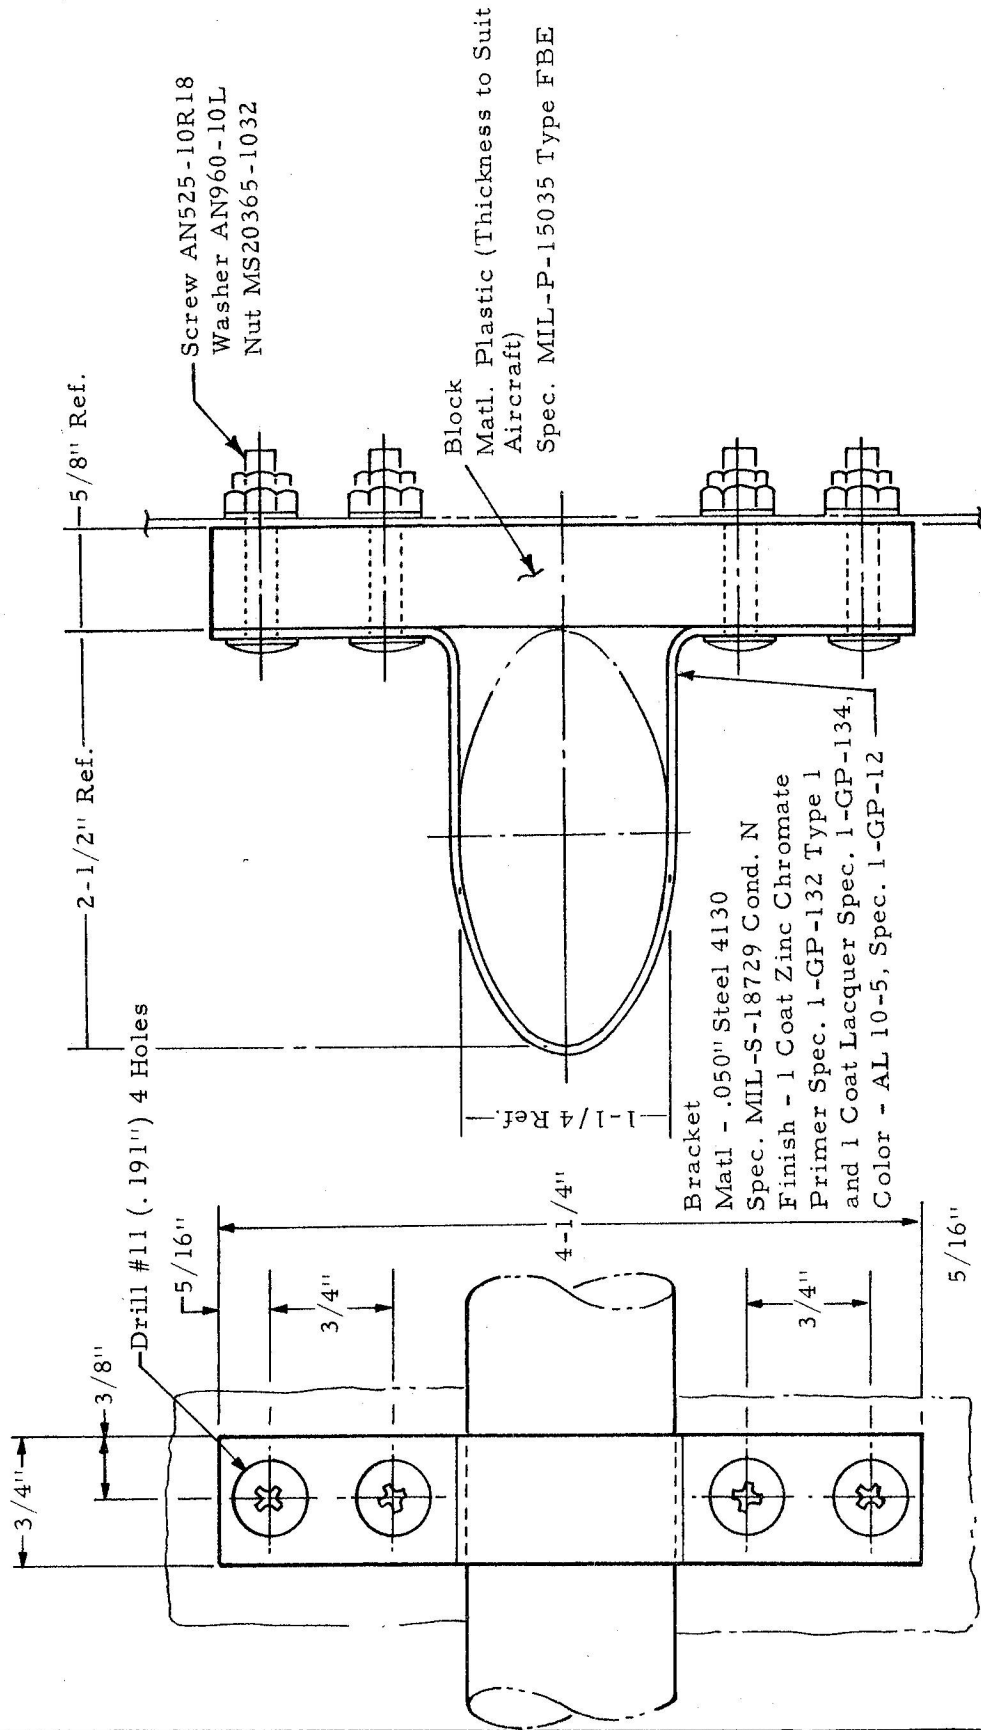

Figure 3 Lower Brackets
- (c) If a filler block is required as shown in Figure 3, fabricate to correct thickness to fit the aircraft.